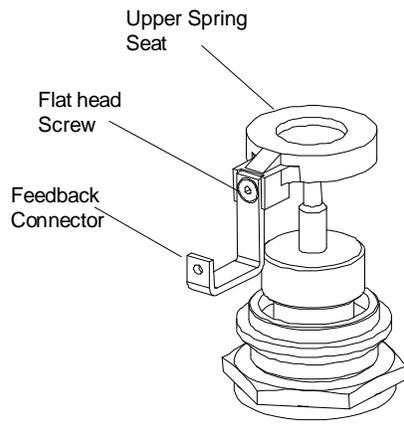

Figure 1: Upper Spring Seat Assembly
Kit Includes (See Figure 1)
1. Attach the feedback connector to the upper spring seat with flat head screw (refer to Figure 1) and using an Allen wrench, tighten the screw.